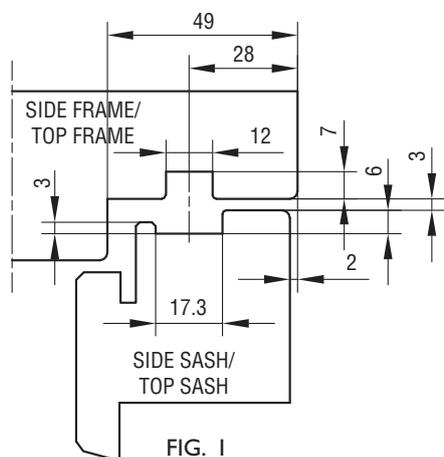

FIG. 1
- 21170-75: SIDE SASH & - FRAME AND TOP SASH & -FRAME ARE MADE WITH THROUGH-GOING GROOVES, SEE FIGURE 1.
21179-82: SIDE SASH & - FRAME ARE MADE WITH THROUGH-GOING GROOVES, SEE FIGURE 1.
21179-82: IF THE TOP SASH IS MADE WITH GROOVE, FIG. 1, FIRST PLACE THE SMALL MOUNTING BRACKETS IN EACH SIDE UNDER TOP BRACKET OF THE FITTING BEFORE FASTEN THE SCREWS.